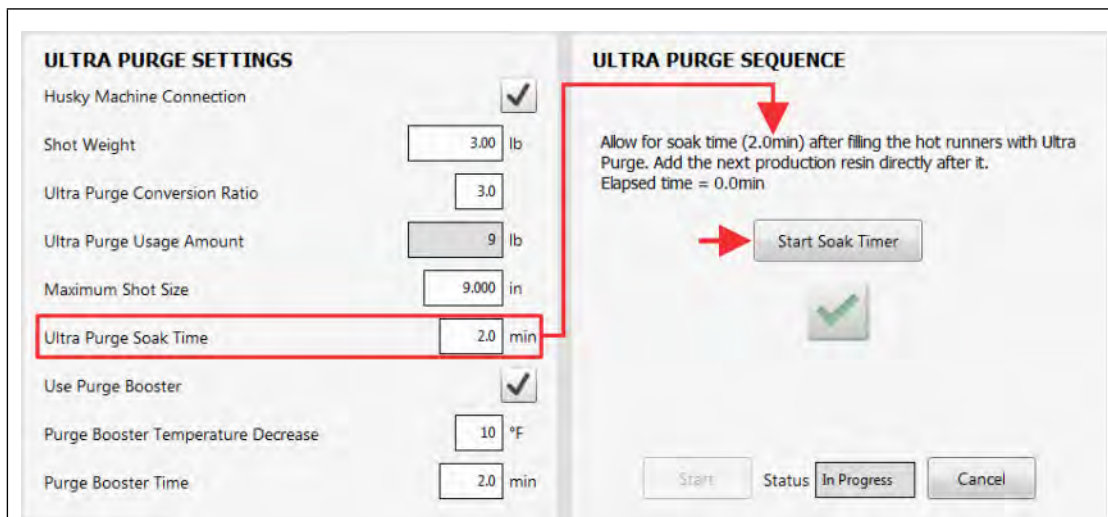

Figure 13-44 Allow for Soak Time
11. Touch the **Start Soak Timer** button and let the soak timer complete (Figure 13-44).